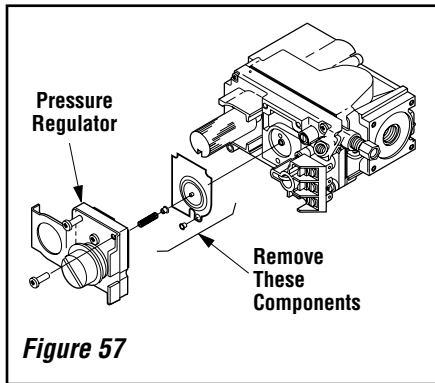

Figure 57
Step 5. SIT Systems - Refer to **Figure 57** and the instructions provided with the kit. Using a Torx T20 (with 1/4" shank and center hole), remove and discard the three pressure regulator mounting screws. Remove the pressure regulator, spring, poppet, diaphragm and bushing. **Discard all removed components.**